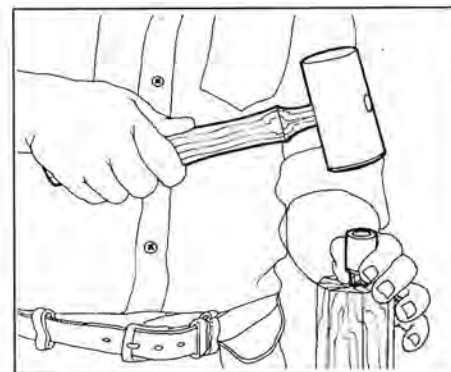

Figure 5. With a mallet, seat the drive center in one end of the workpiece and the cup center in the other.
**2. Seat the lathe centers.** Position the points of the drive center and cup center at the center marks on the workpiece. Then hit the centers sharply with a plastic or rawhide mallet. (See Figure 5.)